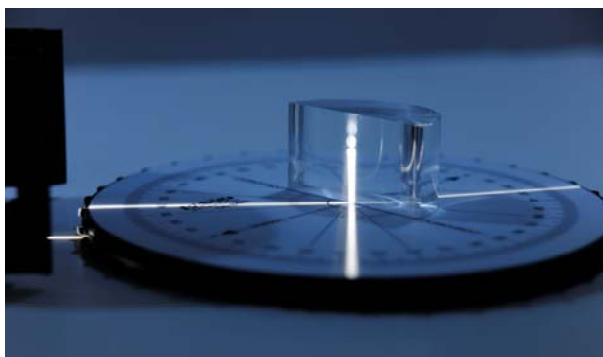

Figure 3: Viewing the Reflected Light
1. Close one eye and look down the path of the reflected light ray (as in Figure 3) observing the intensity of the reflected ray on the surface of the ray table.